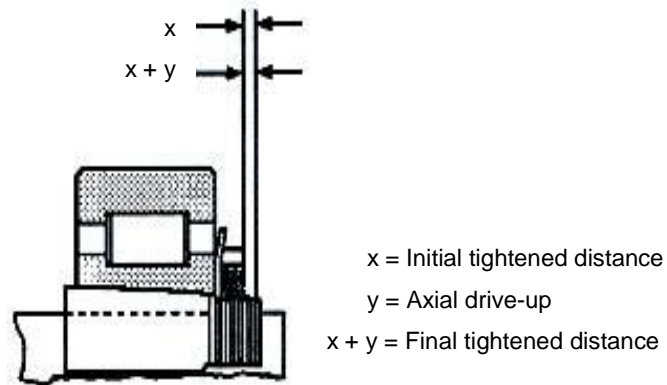

FIG 6.
- I. Measure the distance (x) between the end of the sleeve and the nut with a vernier calliper and make a note of it. (Fig 6 on the next page)
- L. Tighten the nut until this size (x + y) is measured from the small end of the sleeve and the nut. Refer back to Fig 6.